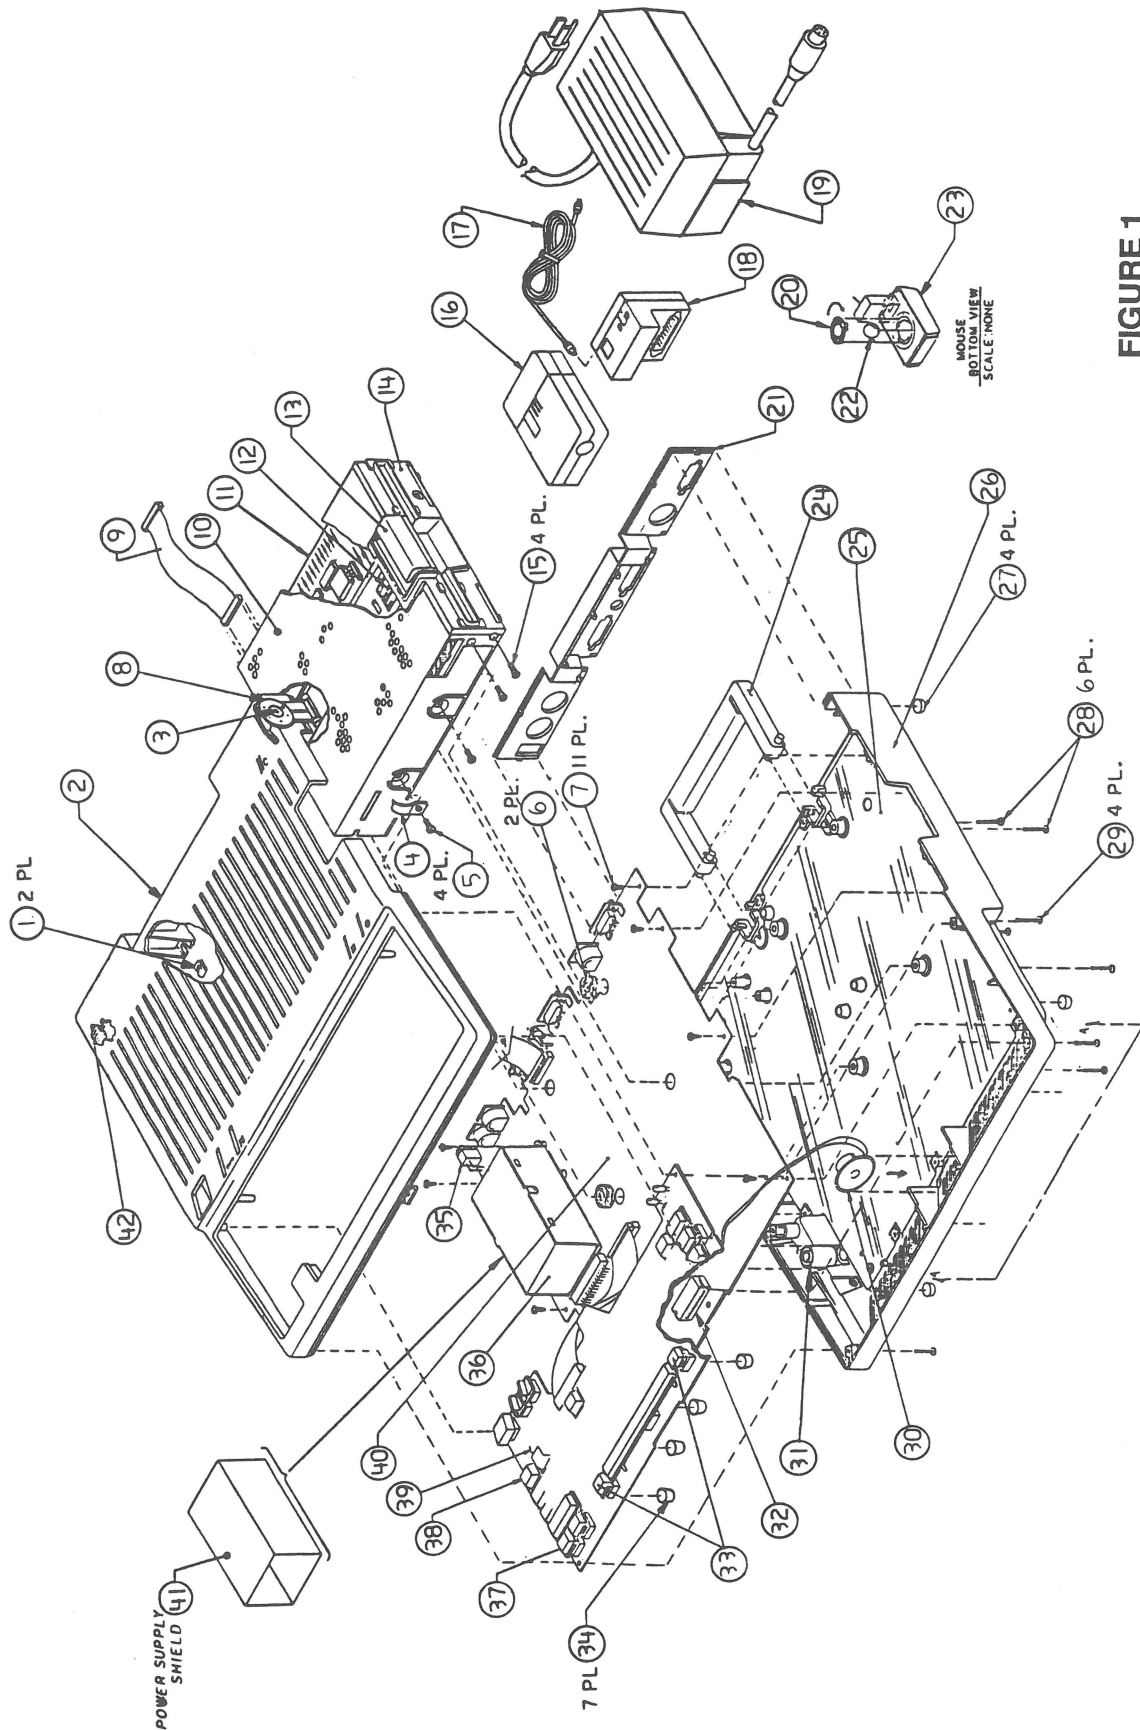

FIGURE 1
- IPL.3 Finished Goods Assembly (Figure 1)
□ APPLE IIc - FINISHED GOODS ASSEMBLY (Figure 1)